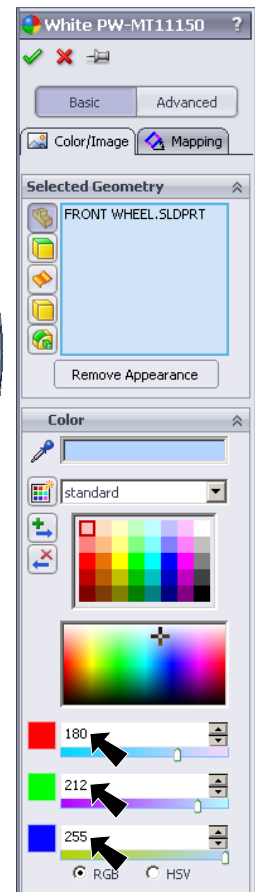

Fig. 13
Step 2. In the Appearances Property Manager, Fig. 13